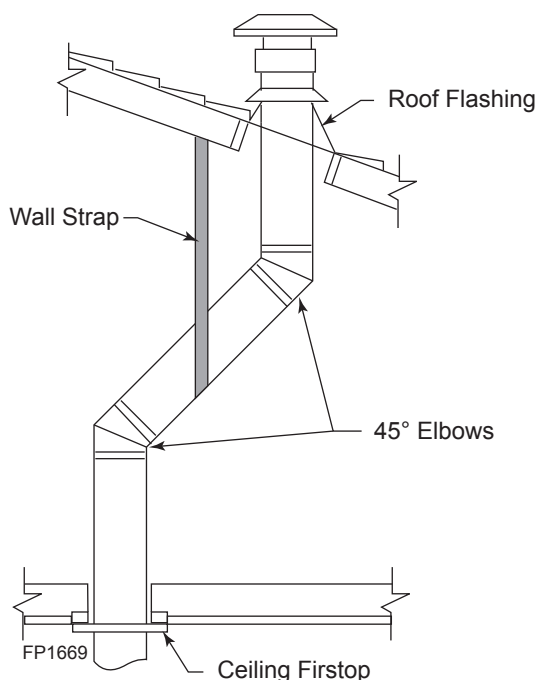

Figure 22 -
1. Determine the route your vertical venting will take. If ceiling joist, roof rafters or other framing will obstruct the venting system, consider an offset. Refer to Figure 22 to avoid cutting load bearing members.